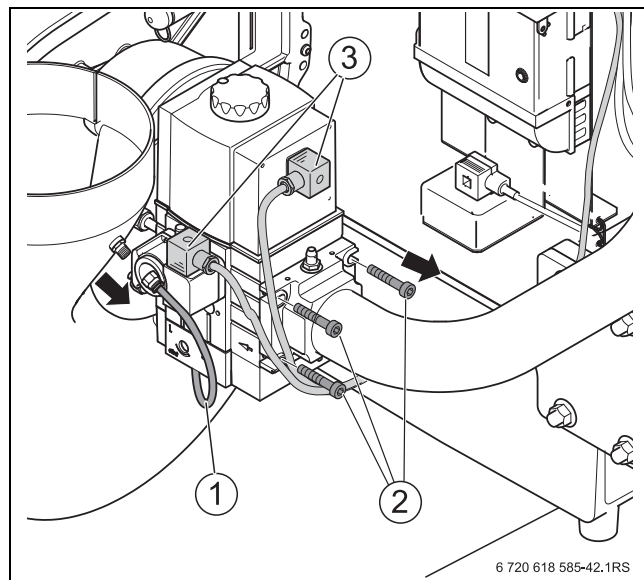

Fig. 56 Undoing the gas valve connections
- ▶ Undo the electrical connections at the gas valve and the fan (→ Fig. 56, page 36).